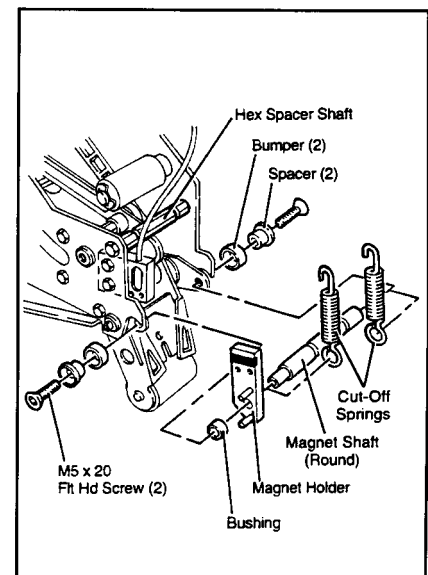

Figure 4
7. Attach magnet shaft to cut-off frame with bumpers, spacers and M5 x 20 flat head screws removed previously. See Figure 4. **Do not tighten screws** (to be tightened after later alignment).
8. Remove the hex spacer shaft shown in Figure 4 and install new hex spacer shaft. Install with spring grooves aligned vertically with grooves in magnet shaft.